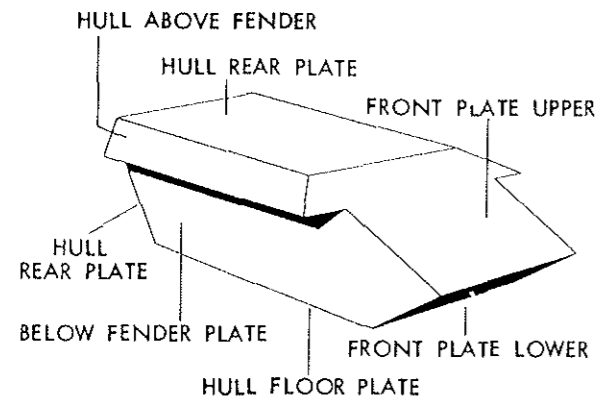

Figure 5.
h. Design (figs. 5 and 6): (1) Angles of plate to vertical (approx). (2) Approximate thickness. (3) Whether plates are welded, riveted, or bolted, or are a combination of all three. (4) Is plate-interlocking employed? (5) What is the nose shape, and what shape of hull is employed?